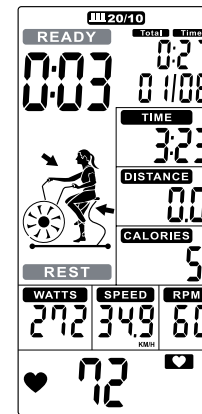

Figure 31
5. Steps 3 and 4 will repeat, with the cycle count increasing by 1 each time, until the counter reaches "08/08 WORK." The program will then proceed to the End Page (see Figure 31).